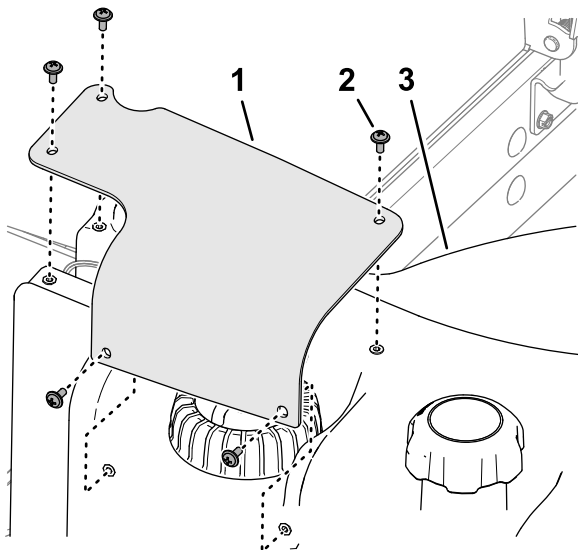

Figure 85
2. Remove the 5 Phillips-head screws that secure the fuel-sender cover to the fuel tank, and remove the cover (Figure 85).